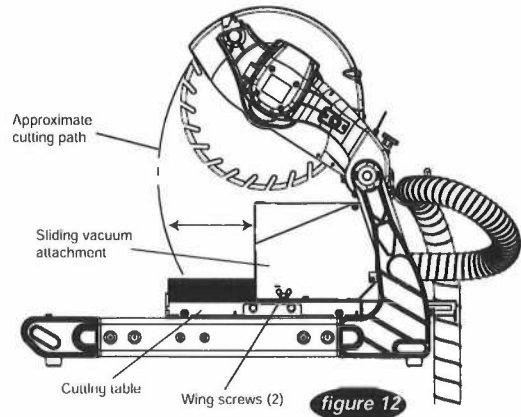

figure 12
8. The sliding vacuum attachment can be moved forward or backwards with respect to the cutting table by loosening the wing screws (2) at the base of the attachment, moving the sliding vacuum attachment to hug the cutting material and then retightening the wing screws (2) (see figure 12).